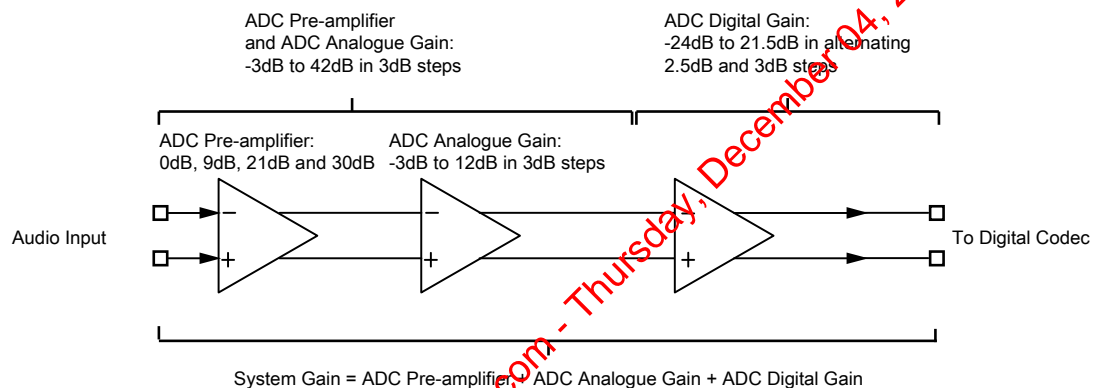

Figure 10.3: Audio Input Gain
Figure 10.3 shows that the CSR8675 BGA audio input gain consists of:
- The overall analogue gain for the pre-amplifier and analogue amplifier is -3dB to 42dB in 3dB steps, see Figure 10.3